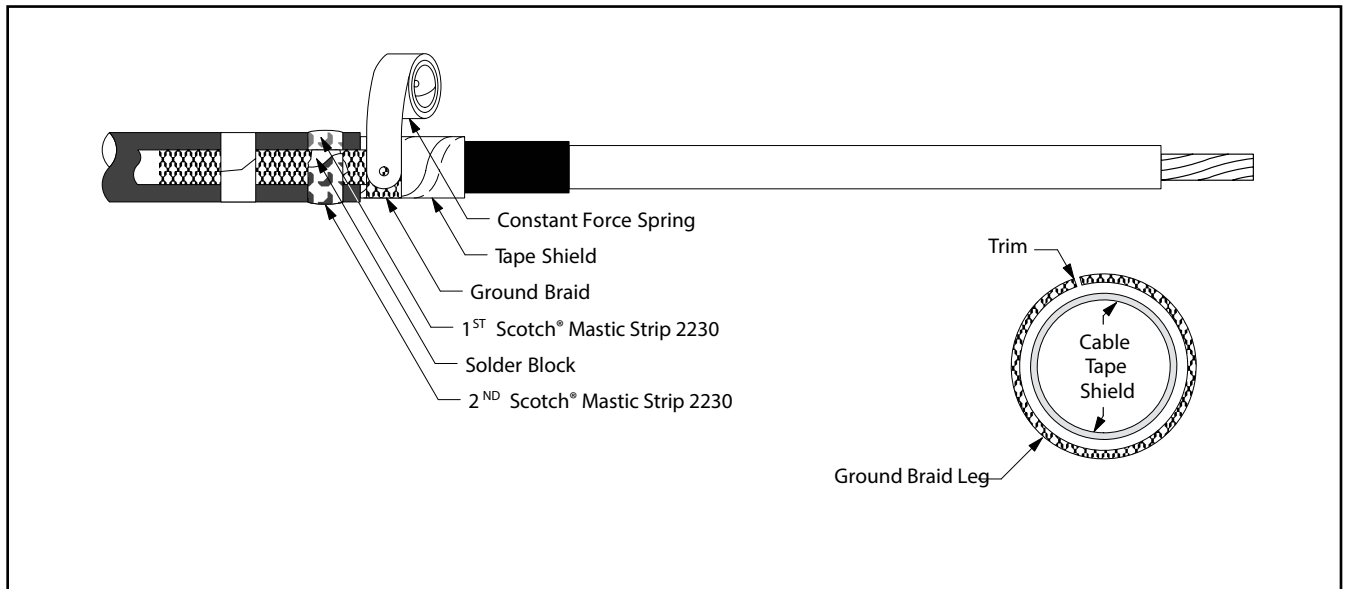

Figure 4
- 2.3 Wrap ground braid around cable tape shield one complete wrap, trim excess to prevent overlap and secure in place with constant force spring. Wrap spring in same direction as ground braid (*Figure 4*). Cinch (tighten) the spring after wrapping the final winding.
- 2.4 Select second Scotch® Mastic Strip 2230 from kit and remove white release liners. Apply a second **SINGLE WRAP** of mastic over solder block on ground braid and previously applied mastic (*Figure 4*). Cut off excess.